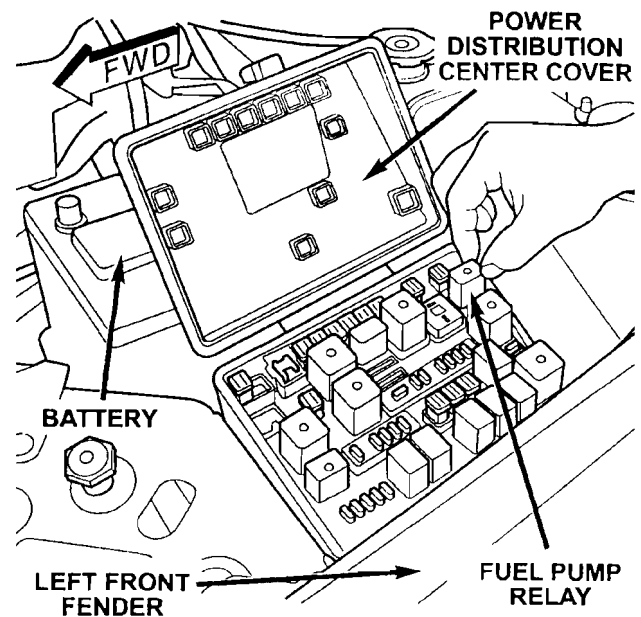

Figure 2
- a. Open the Power Distribution Center (PDC) cover located next to the battery (Figure 2).
- b. Remove the fuel pump relay (Figure 2).